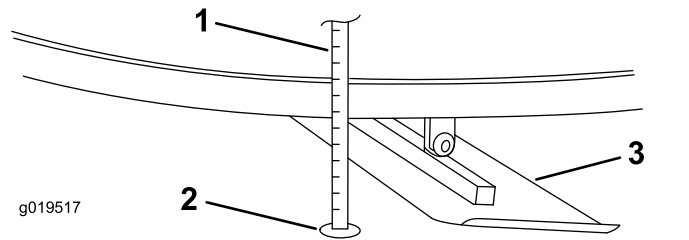

Figure 32
- 6. Measure the second blade from the spot previously marked on the floor to the second blade's leading edge (Figure 32).